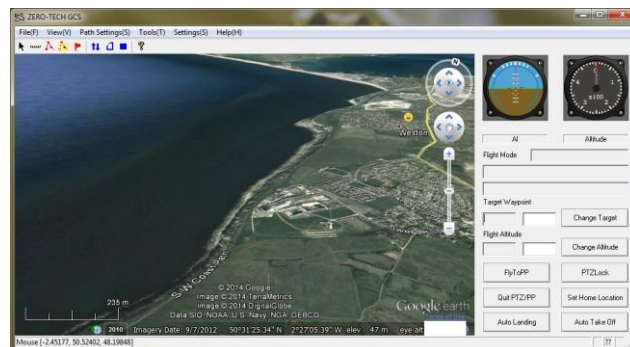

Figure 24
1. Connect the PC to the Wi-Fi module, or directly to the COM1 on the auto pilot using the USB adaptor, and run “ZERO-GCS rotor ground station.exe” to enter the initial interface, as shown in Figure 24.